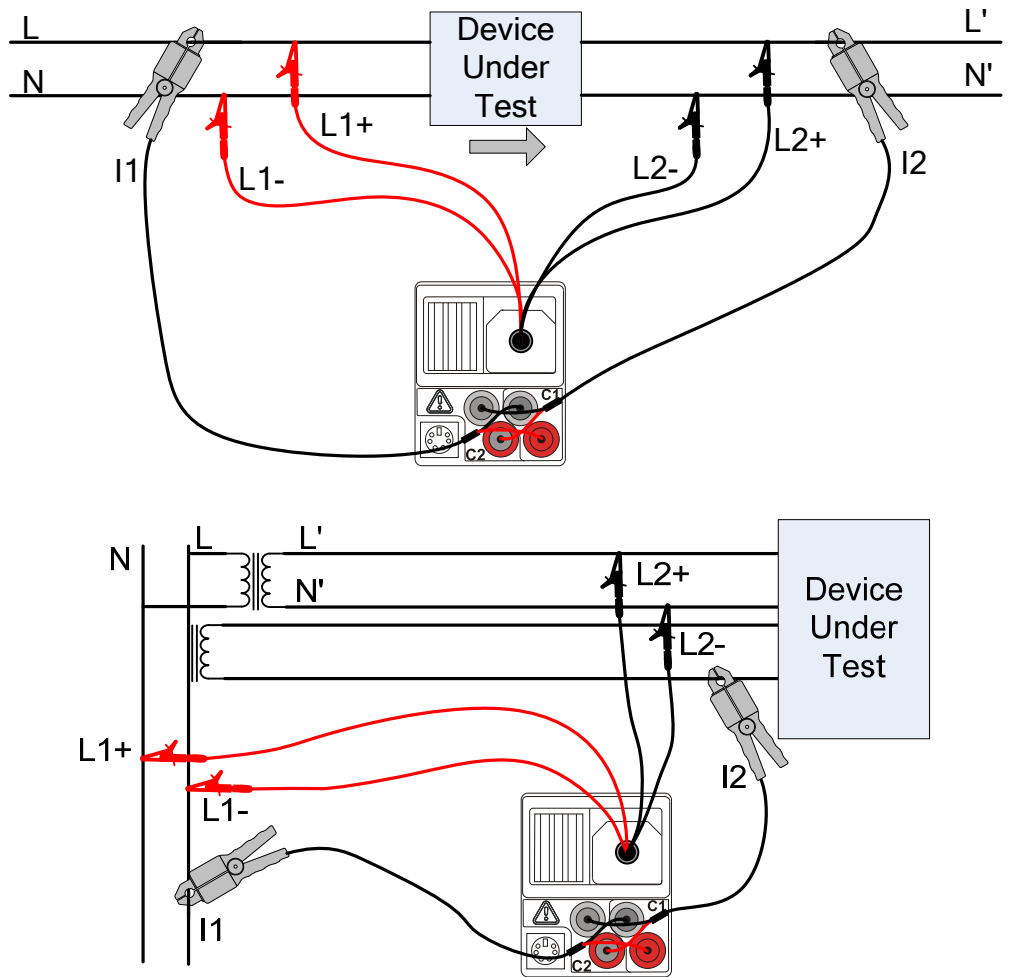
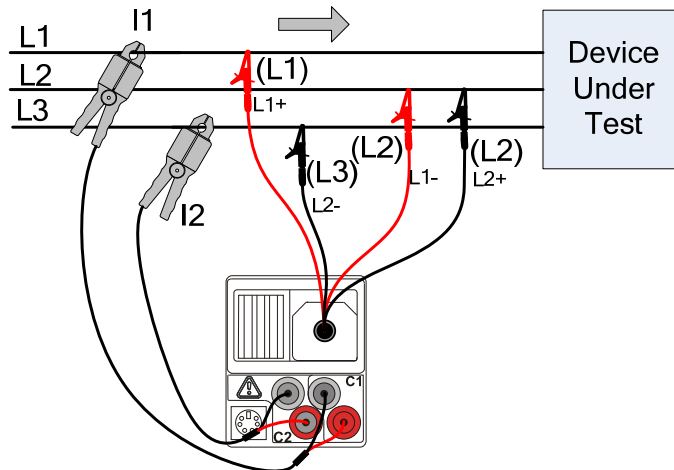

Figure 4.3: 2 phase connection
Figure 4.4: 3 phase (Aaron) connection
- ❑ **Connect** test lead to the item to be measured (see Figure 4.3 and Figure 4.4).